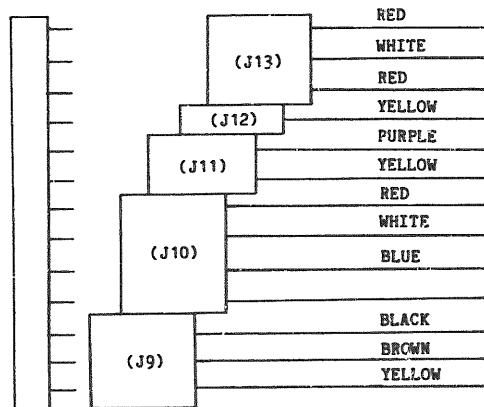

Figure 6-2. J9-J13 Orientation
- a. Note the location and orientation of drive-to-PCBA connectors J9 through J13 (the proper orientation at these connectors is shown in Figure 6-2), then disconnect those connectors.
- j. Mate the drive-to-PCBA connectors (J9 through J13) with the PCBA, orienting them as noted in Step a (see Figure 6-2).